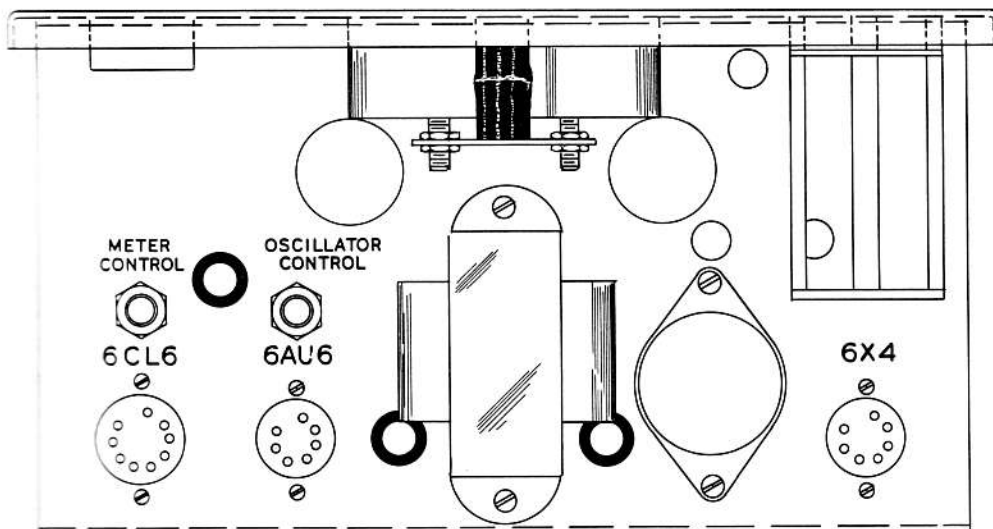

Figure 14
- () Install the 3 watt 115 volt candelabra lamp and the 6X4, 6AU6, and 6CL6 tubes in their proper sockets. See Figure 14.